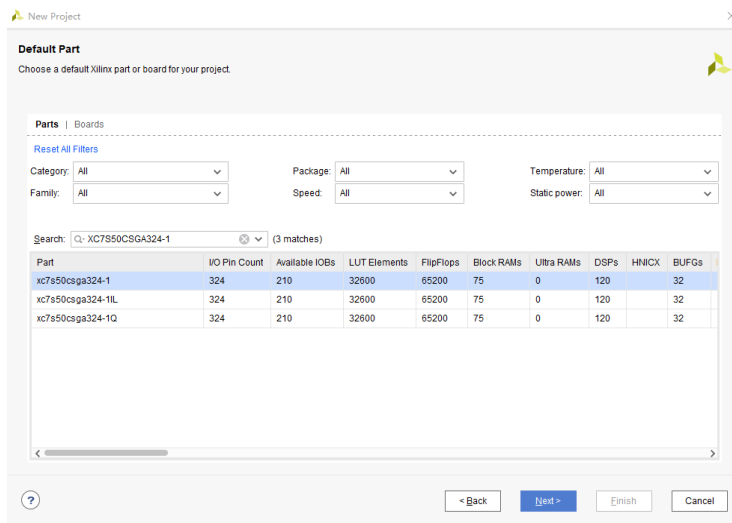

Figure 4 - Selecting the Correct Part
- A window in Figure 4 will appear, search, and select *XC7S50CSGA324-1*, click *Next*.